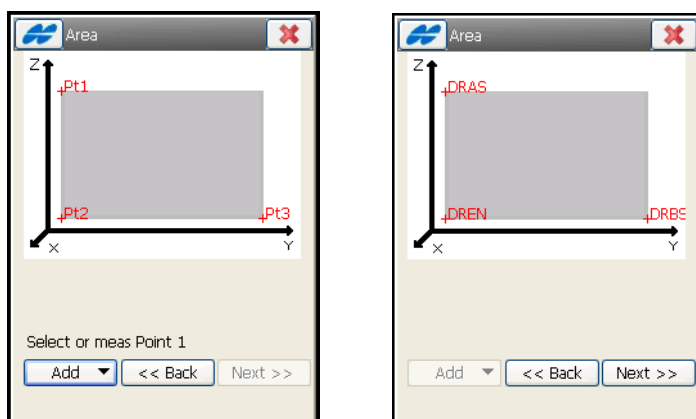

Figure 11-48. Select Area
- **Next** – opens the *Area* screen (Figure 11-48 on page 11-43).
The *Area* screen (Figure 11-48) selects the top-left, bottom-left and bottom-right corners to determine an area to scan.